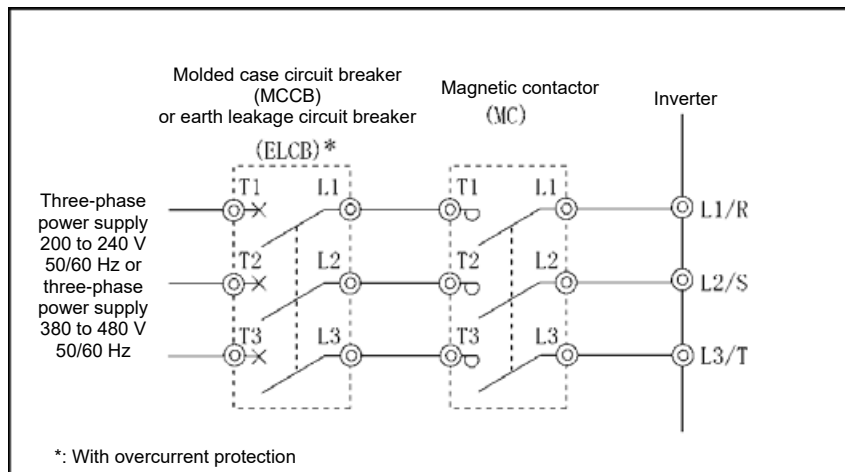

Fig. 11.3-1 External views and connection example for MCCB, ELCB and MC
When selecting molded case circuit breaker (MCCB), earth leakage circuit breaker (ELCB) (with overcurrent protection function), and magnetic contactor (MC) connection examples based on Fig. 11.3-1, the required rated current and magnetic contactor types are shown in Table 11.3-1. Table 11.3-2 lists the applicable grades of ELCB sensitivity current.